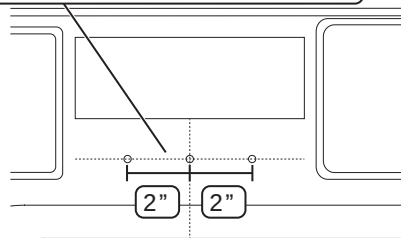

Figure 3
6. Secure the unused wire to the wiring harness with a supplied tie wrap (See Figure 3, below).
6. Secure the unused wire to the wiring harness with a supplied tie wrap (See Figure 3, Page 5).
9. Make a mark 2" to the right of the center, and another 2" to the left of the center as shown in Figure 3, below.